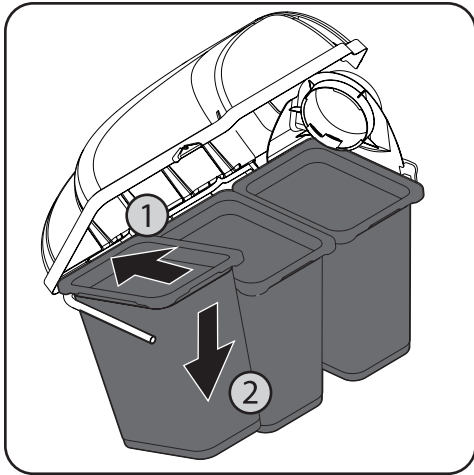

Figure 4-14
- Install all three bag assemblies onto the bag support brackets by inserting the front edge in first (1), and then setting the back edge down until it fits into the assembly (2) as shown in Figure 4-14.